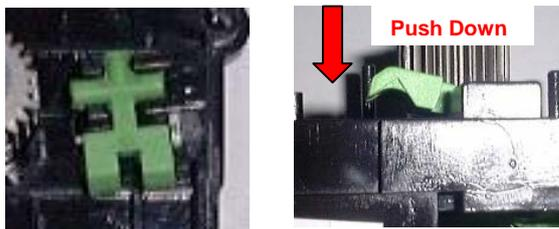

Figure 6:
- i. When fitting the new fingers to the new Disk Bed refer to Figure 6